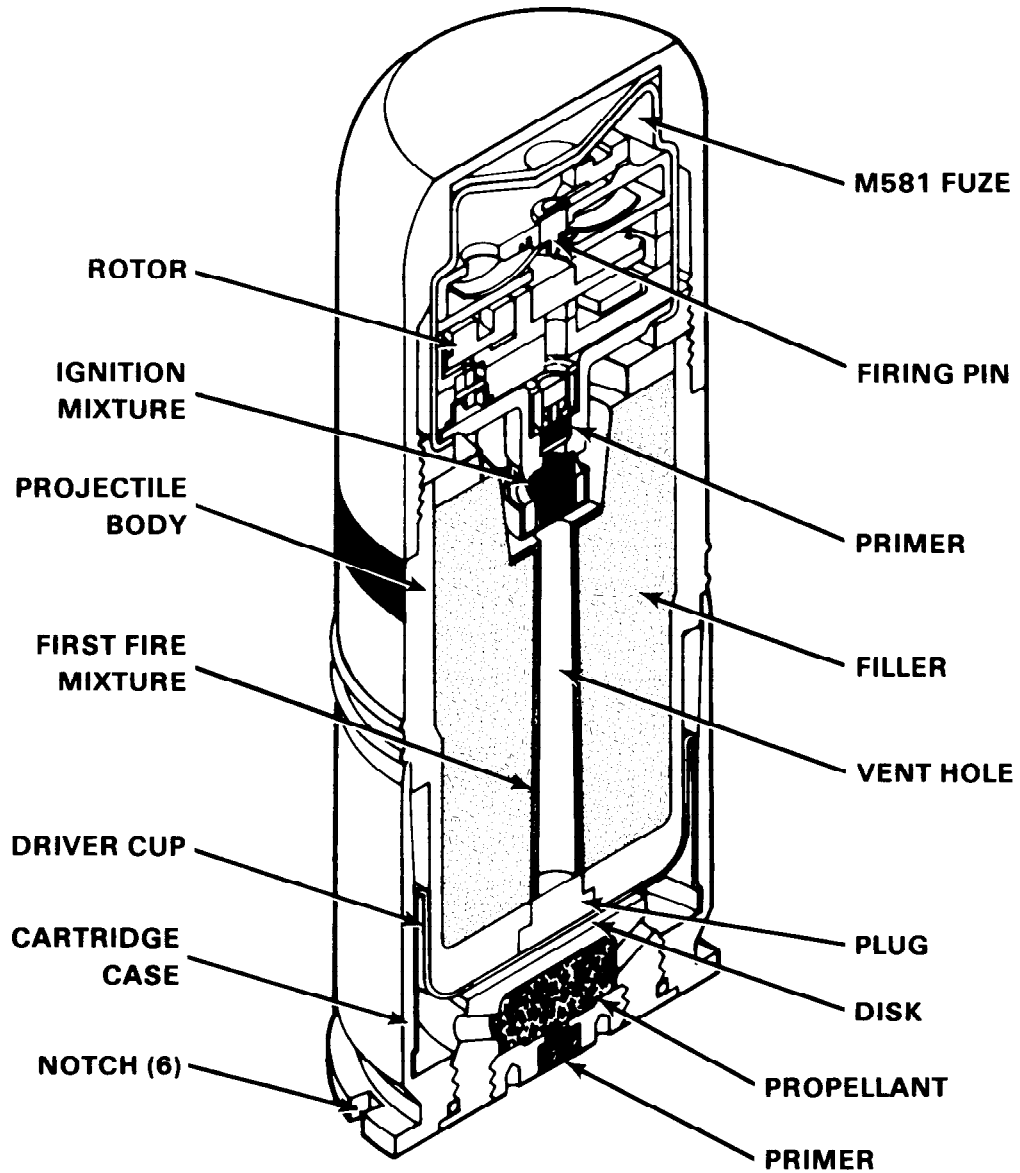

Figure 8-3.1. M651 CS 40mm Riot Control Cartridge
8-3.1.2. Description. The M651 cartridge, Figure 8-3.1, is similar in appearance to other 40mm cartridges, but it is slightly longer and has a flat nose. The cartridge is approximately 4.50 inches long, weighs 10.00 ounces, and contains 2.00 ounces of CS mixture. The projectile end up of the cartridge contains the M581 fuze which is centrifugally and setback-armed, and point detonating (PD). The fuze contains a detonator, primer, and an ignition mixture, each weighing less than 1.0 gram. The rimmed end of the cartridge contains a percussion primer and a double-base propellant. The projectile end of the cartridge is painted gray with red markings and a single red band to indicate a nonpersistent riot control agent filling. The cartridge case is olive drab and has six identification notches.